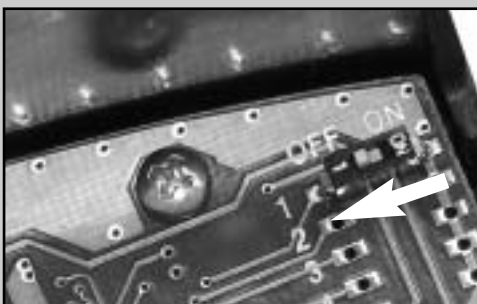

Figure 3-22
- If the DIP switch is set to OFF, the proMIX 701 will enable the boiler. (See Figure 3-22.)